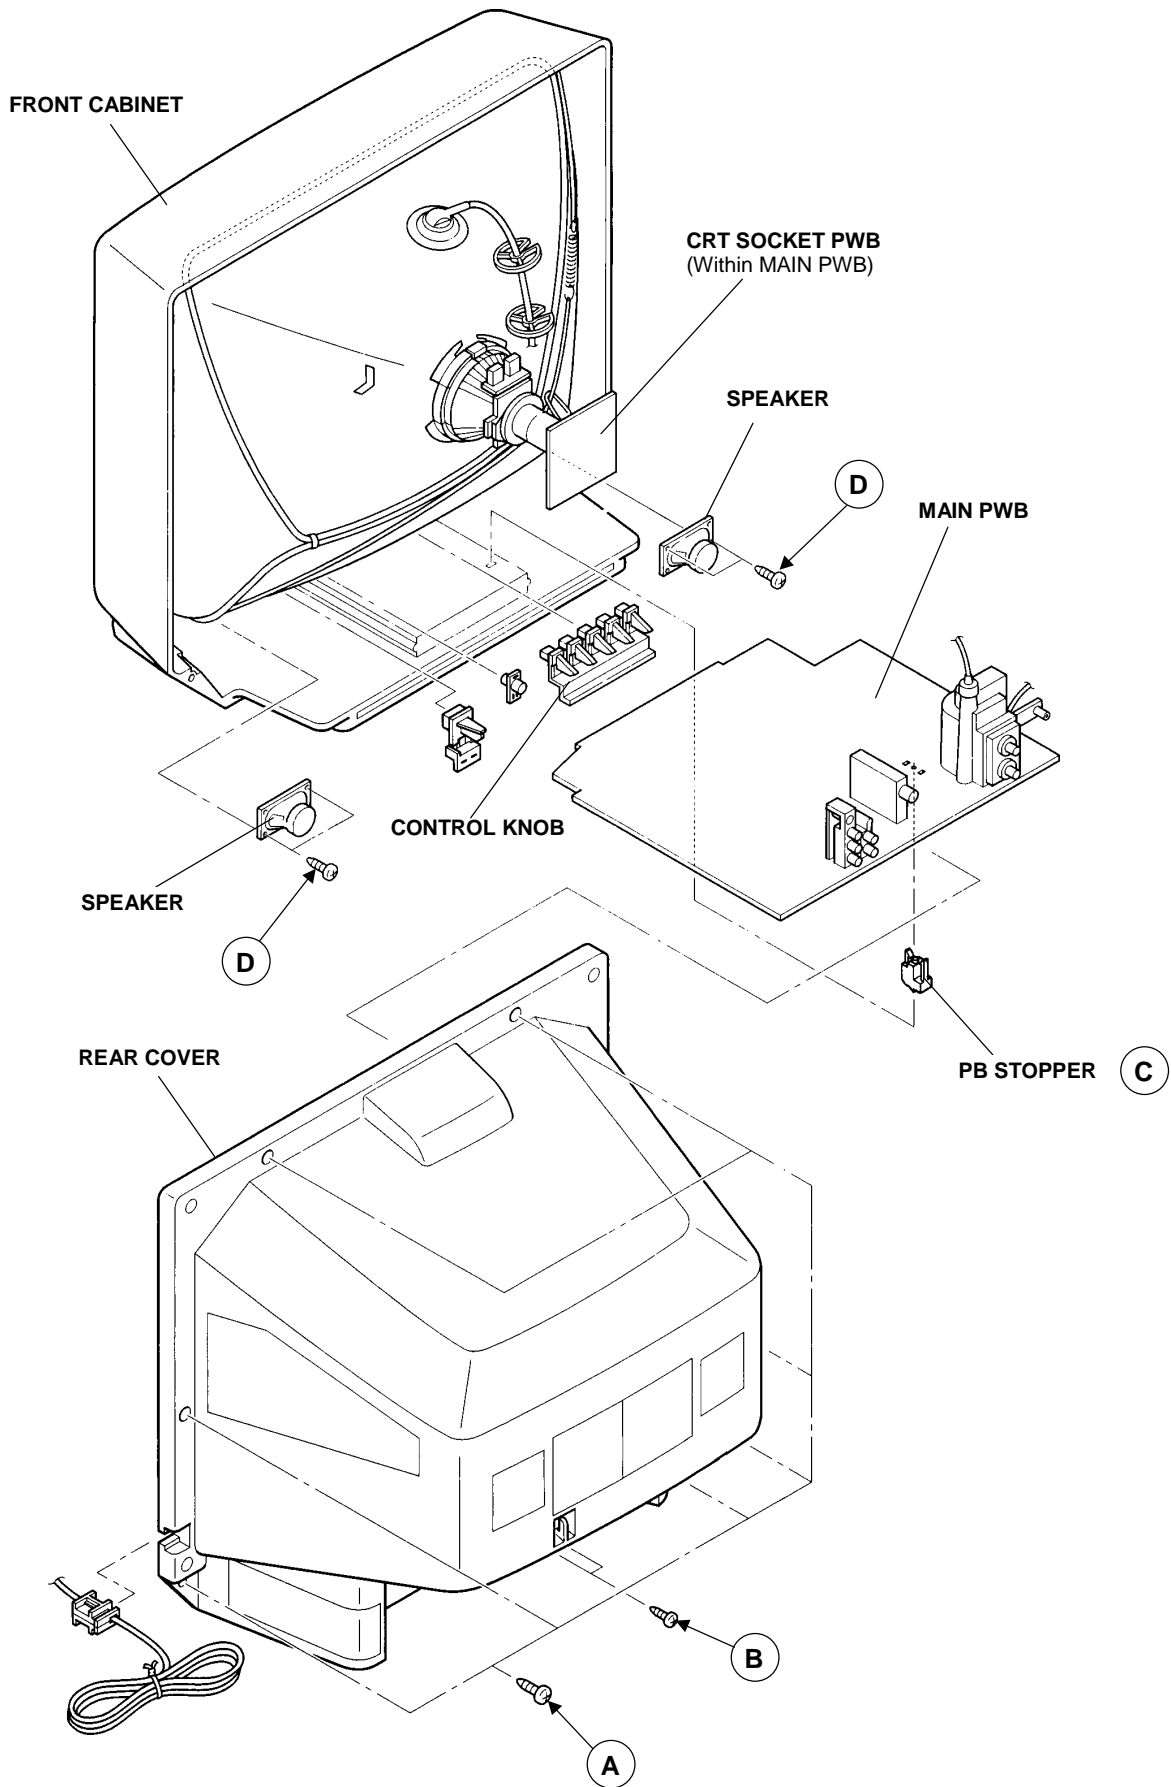

Fig.1
2. Remove the 7 screws marked (A) and 2 screws marked (B) as shown in Fig.1.
1. Remove the 2 screws marked (D) as shown in Fig.1.
<p>(4) System constant check and setting</p> <ol style="list-style-type: none"> 1) Press SLEEP TIMER key and, while the indication of "SLEEP TIMER 0 MIN." is being displayed, press DISPLAY key and VIDEO STATUS key on the remote control unit simultaneously. 2) The SERVICE MENU screen of Fig.1 is displayed. 3) While the SERVICE MENU is displayed, again simultaneously press the DISPLAY and VIDEO STATUS keys to display the Fig.2 SYSTEM CONSTANT screen. 4) Refer to the SYSTEM CONSTANT table and check the setting items. Where these differ, select the setting item with the MENU UP/DOWN key and adjust the setting with the MENU LEFT/RIGHT keys. (The letters of the selected item are displayed in yellow.) 5) After adjusting, release the MENU LEFT/RIGHT key to store the setting value. 6) Press the EXIT key twice to return the normal screen. 	 <p style="text-align: center;">Fig.1</p>
<p>(7) SERVICE MENU setting Verify what to set in the SERVICE MENU, and set whatever is necessary.(Fig.1) Refer to the SERVICE ADJUSTMENT for setting.</p>